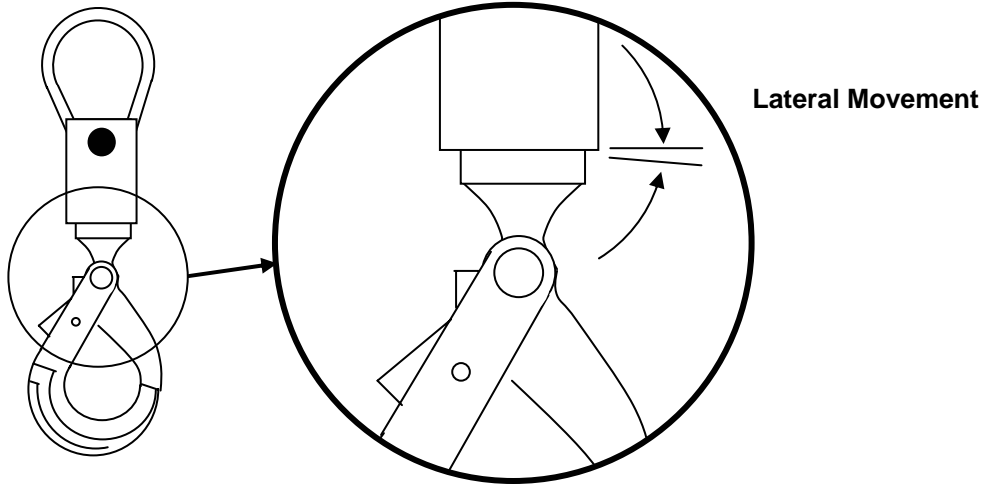

Figure 2. Excessive Lateral Movement
- b. The lateral movement test of B.1.b described above, except that maximum lateral movement shall be less than 2 degrees, see figure 2.